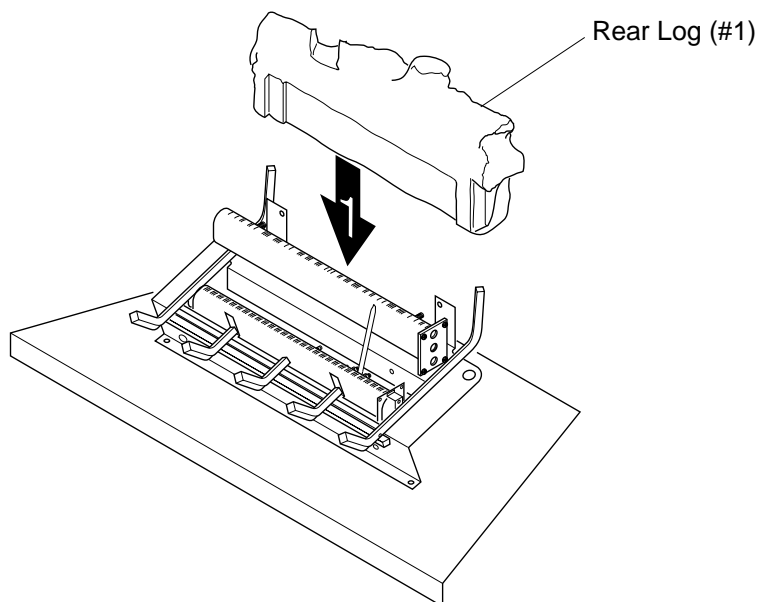

Figure 21 - Installing Rear Log
1. Slide rear log (#1) into place behind rear burner (see Figure 21).